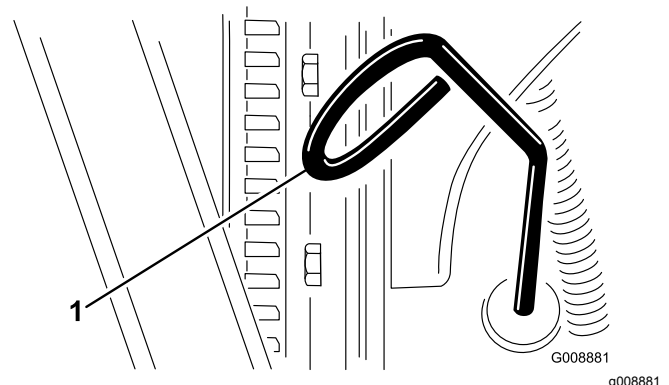

Figure 36
2. Remove the dipstick (Figure 36) and wipe it with a clean rag.